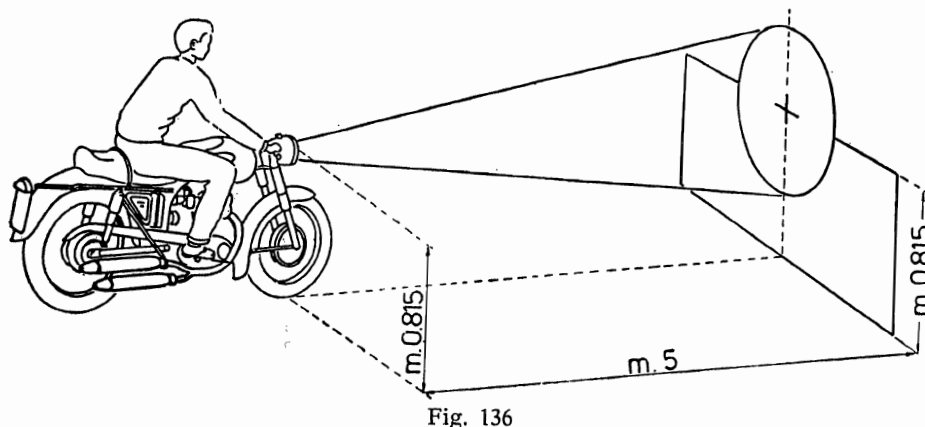
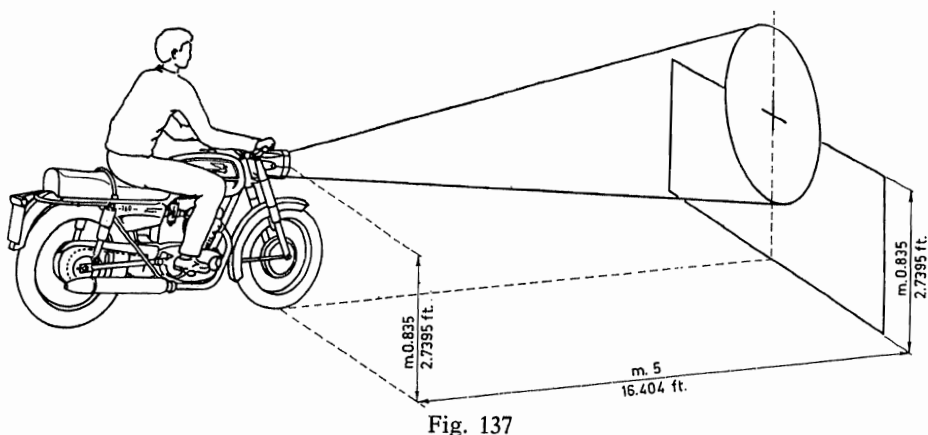
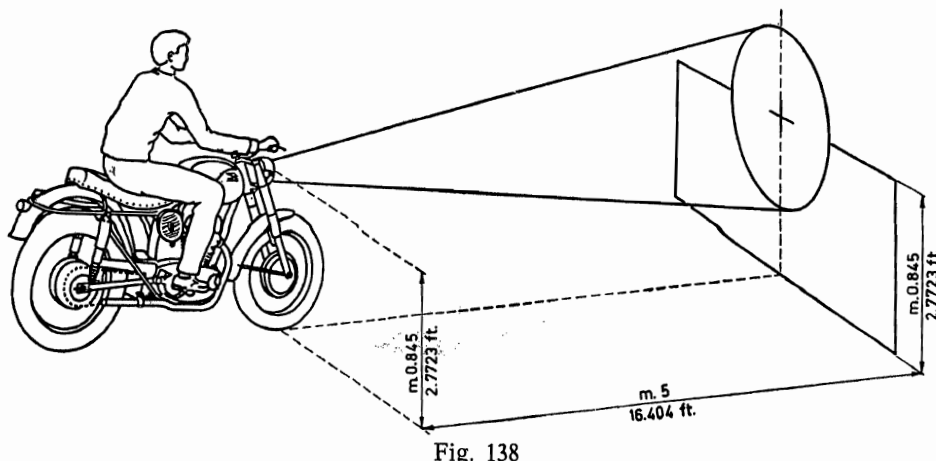

Fig. 136
Fig. 137
Fig. 138
- 4) Draw a cross on the wall on the spot where the optical axis of the projector intersects with the wall, 0.815 mt. (32") from the ground, for the models 250 Monza, G.T., Mark 3, Mach 1 and 350 Sebring (see Fig. 136), 0.835 mt. (32.5") for Monza Jr. (see Fig. 137) and 0.845 mt. (33") for the 250 Scrambler (see Fig. 138).
- 6) If the alignment of the headlight requires correction, loosen the two (2) screws, one on each side of the headlight, and adjust to the desired angle.